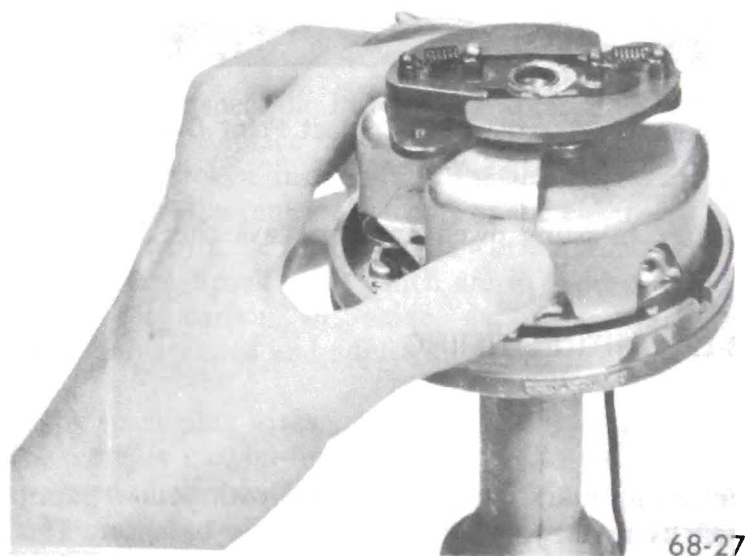

Figure 68-25 Installing Ignition Point Shield
6. Install ignition point shield, making sure of correct positioning to insure against leakage and a short circuit. See Figure 68-25.